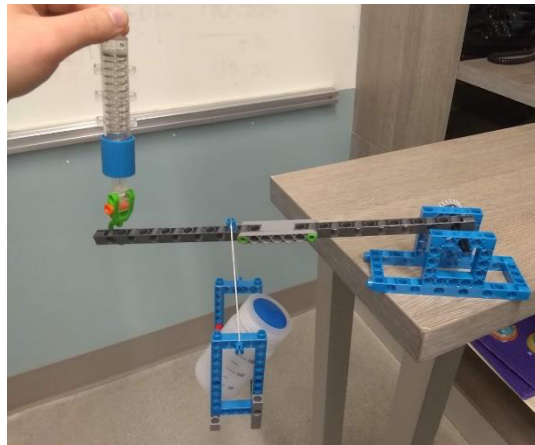

Figure 6: A class 2 lever.
The class 1 lever can be converted into a class 2 lever by changing the location of the fulcrum and joint pin. Hook the load as in figure 6. The load force is applied on the rod at a position between the fulcrum and the effort force.
- 2) Hook the load over the joint pin on the load arm, see figure 6.